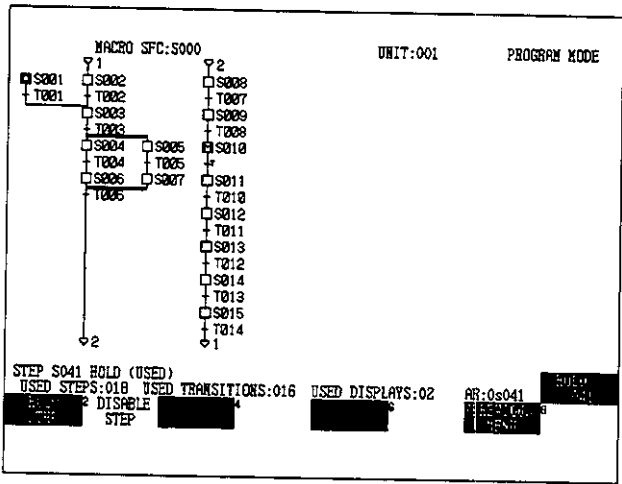

Figure 7.126
- (1) Position the cursor in the Set Search area and enter the search data.
- (2) The reference number does not need to be input when searching for a condition only.
- (3) In a condition search, it is not possible to search for a reference number only.
- (4) Press the Shift + Cont/Search Keys to continue the search.
- (5) If the reference number is set before the condition to search for a condition only, “ALL” will be displayed in the reference number area.
- (6) In a search where a reference number has been specified, the search is made from the reference number onwards.
- (7) If the status is Hold in a step which is not used in the SFC flow in Figure 7.126, the display will show step S041 Hold (Not Used).